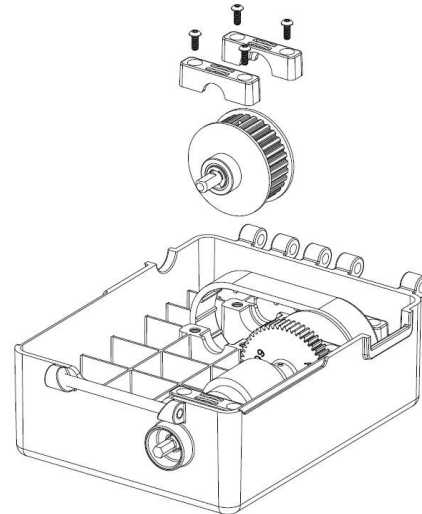

Figure 2
Step 2: Remove the two screws holding down each wheel clamp, using a 5/64 hex wrench (**Figure 2**).